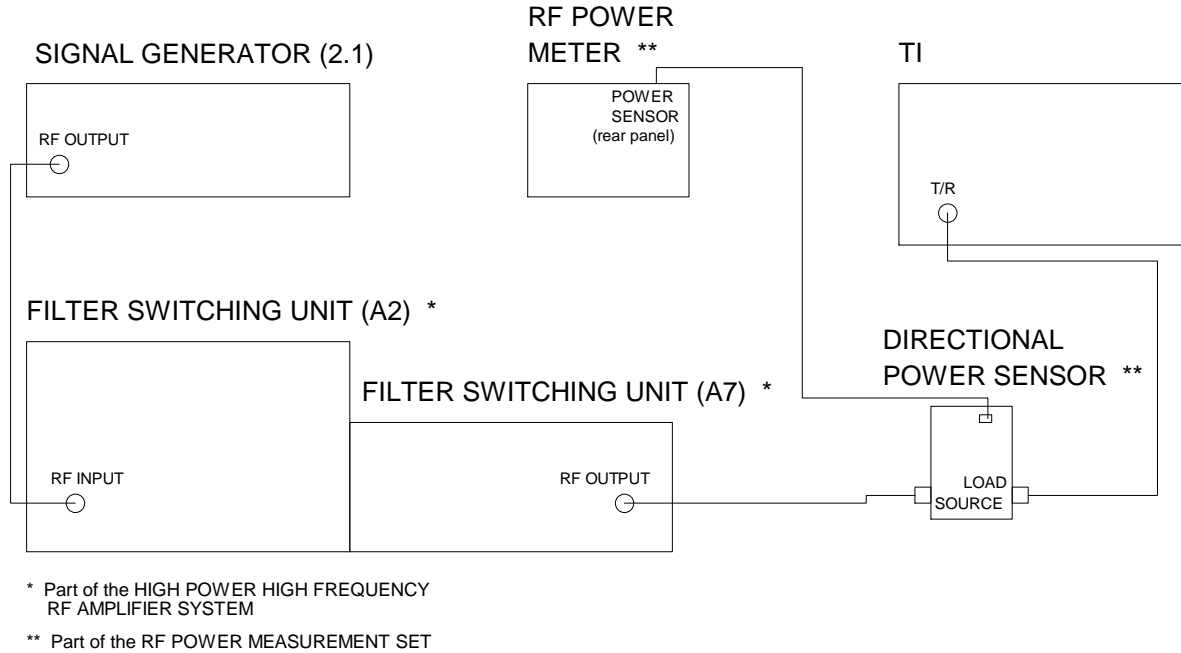

Figure 1A.
4.6A.1 Connect equipment as shown in Figure 1A.